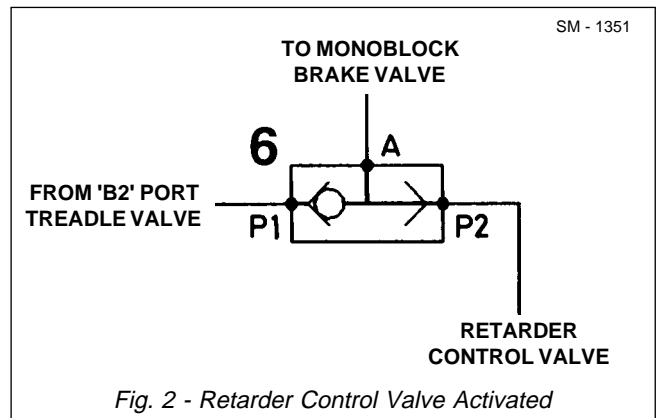

Fig. 2 - Retarder Control Valve Activated
Refer to Fig. 2. On application of the retarder control valve, hydraulic oil, up to a maximum pressure of 33 bar (480 lbf/in²), acts on port 'P2'. This pressure pushes the spool across to close port 'P1'. Oil pressure flows through port 'A' to the monoblock brake valve mounted off the left hand frame rail. Refer to Section 250-0100, MONOBLOCK BRAKE VALVE.
Refer to Fig. 2. Pressing the parking brake switch to the 'On' position sends a signal to energize the solenoid in parking brake valve (1), opening the front brake lines to tank. At the same time the solenoid in the brake manifold valve is de-energized which allows full pressure to enter the 'PX' port in the treadle valve to apply the parking brakes and the rear service brakes. Refer to Section 250-0050, BRAKE MANIFOLD VALVE.
Mounted on the rear torque tube, the brake dump valve is located in the hydraulic brake circuit between the monoblock brake valve and the oil cooled disc brakes (See Fig. 2).